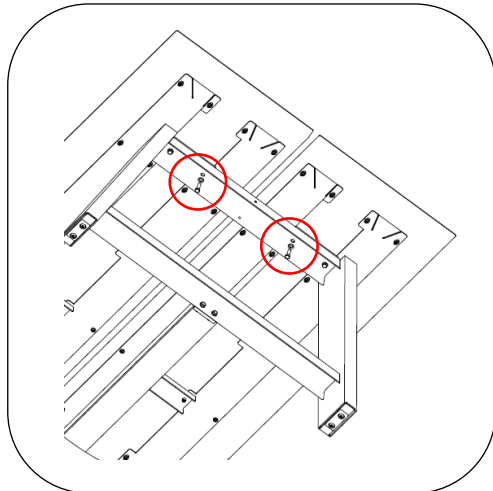

Fig. 2 – remove two bolts and washers
3. Remove two bolts and washers from table support leg, near the same side as the wire whip extending from the luminaire, see Fig. 2. Retain hardware.